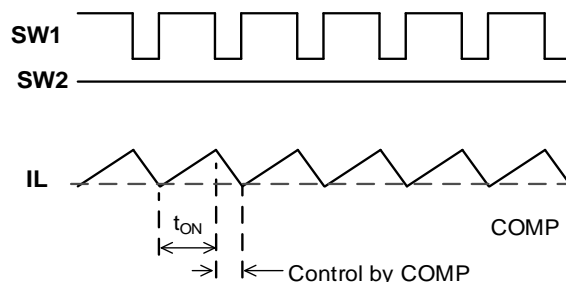

Figure 4: Buck Waveform
on. SWA turns on for a fixed on time before turning off. Then SWB turns on again, and the operation repeats. The COMP signal is the error amplifier (EA) output from the V_{OUT} feedback and internal FB reference voltage (see Figure 4).